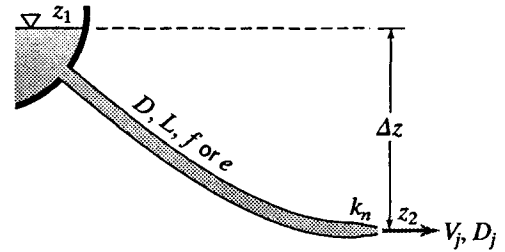

Figure P16.10
16.14 A 36-in pipeline ($f = 0.020$) 10,000 ft long connects a reservoir whose water surface elevation is 1800 ft to a nozzle at elevation 1000 ft (Fig. P16.10). The jet from the nozzle is used to drive an impulse wheel. (a) If the head loss through the nozzle is expressible as $0.04V_j^2/2g$, determine the horsepower that will be developed by jets having diameters of 8 in, 10 in, and 12 in. (b) On the basis of the answers to (a), approximately what would be the horsepower and diameter of the jet that gives the maximum horsepower?